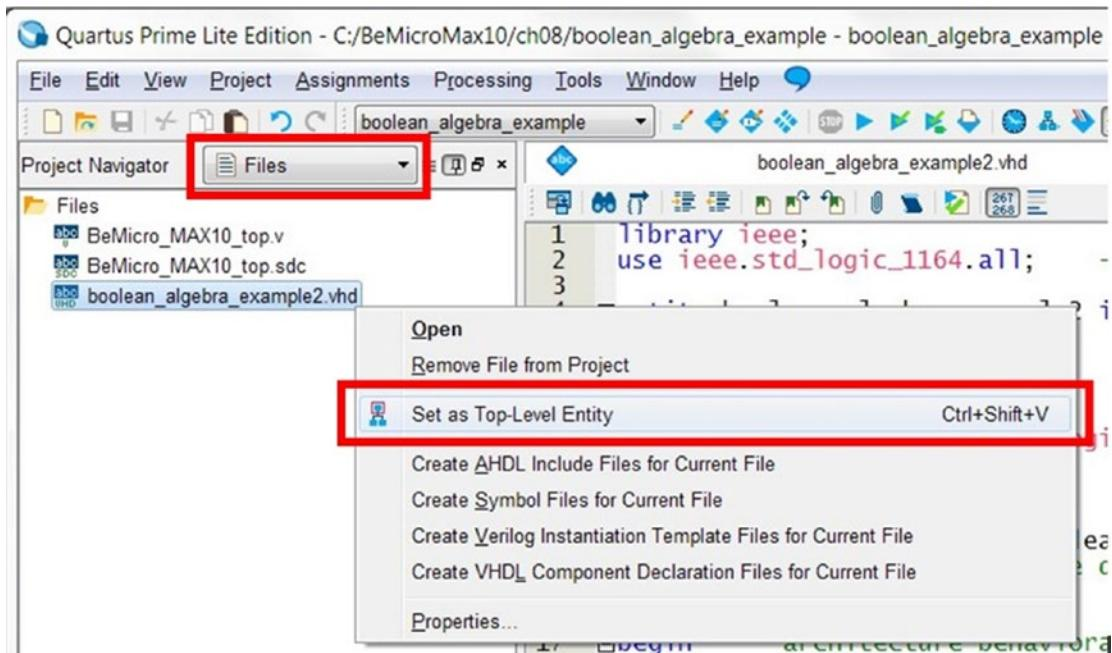

Figure 8-6. Set *boolean_algebra_example2.vhd* as Top-Level Entity
5. In Project Navigator, select **Files**. Right-click the file *boolean_algebra_example.vhd* and click **Set as Top-Level Entity** (Figure 8-6).